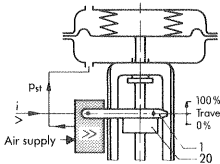
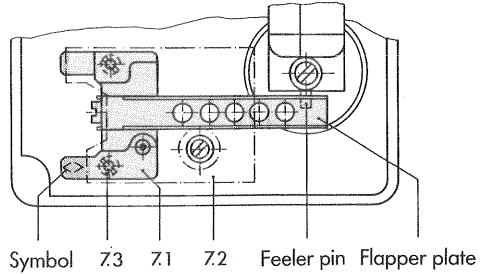

Fig. 6 · "Actuator: actuator stem extends FA"
Fig. 10 · Reversal of nozzle block
The air connections are holes with NPT 1/4 thread (special version ISO G 1/4). The conventional screw joints for metallic pipe or plastic hoses can be used. Prior to connection, the air pipes shall be blown through thoroughly. The signal pressure (output) shall be connected to the actuator top or bottom side as shown in Figs. 6 through 9.
The relationship of actuator, signal range, operating direction and mounting position is shown in Figs. 6 through 9.
#### 4.1.1 Setting and changing the operating direction (Figs. 6 through 9 and Fig. 10)
If the operating direction required by the function (Figs. 6 through 9) does not coincide with the visible symbol or if the operating direction is to be changed, proceed as follows:
Remove screws (7.3) from the cover plate whilst holding the nozzle block. Take off the cover plate. Turn nozzle block (7.1) by  $180^\circ$ . Reinstall it with cover plate, and secure it with screws. Make sure that the nozzle block with flapper is installed properly, i.e. that the flapper is located on the right side of the feeler pin of the coupling, as shown in Fig. 10.
If the operating direction is to be changed after it has been set, the positioner must be fastened on the other side of the valve; the position of the lever (1) and plate (20) shall be observed (Figs. 6 through 9).